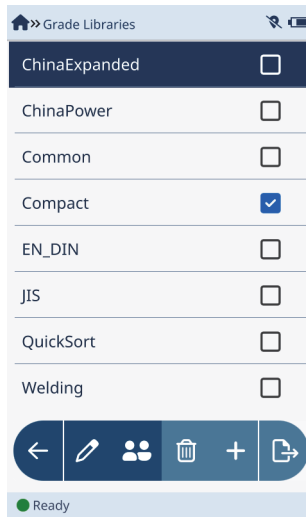
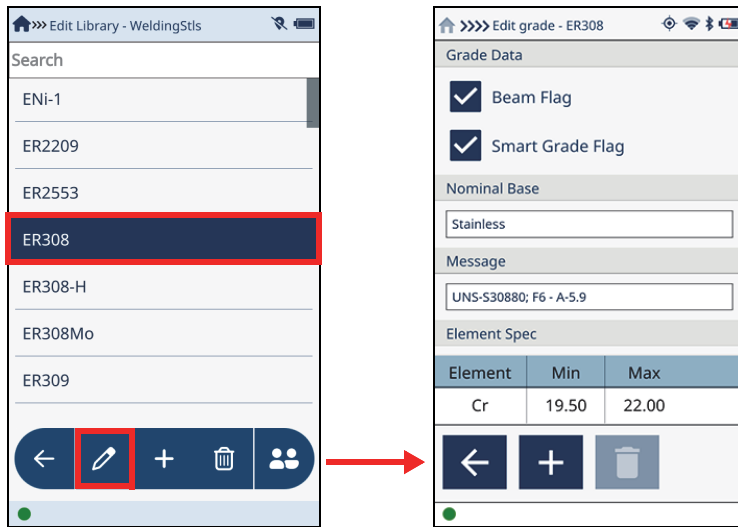

Figure 2-78 Grade Libraries screen
Figure 2-79 Edit Library screen (left), Edit Grade screen (right)
1. Tap the arrow () to display the **Grade Libraries** screen (see Figure 2-78 on page 91).
1. In the **Grade Libraries** screen (see Figure 2-78 on page 91), tap the **Edit** button () to open the **Edit Library** screen (see Figure 2-79 on page 92).
2. Tap to select a grade, and then tap the **Edit** button () to open the **Edit Grade** screen (see Figure 2-79 on page 92).